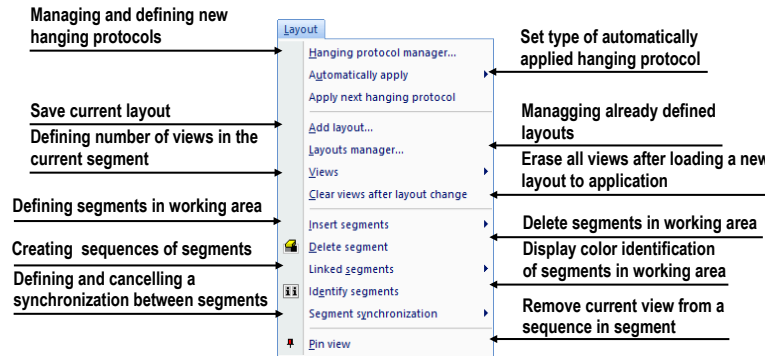

Figure 45 – Layout menu
- **Layout** – the functions for managing layouts and hanging protocols in TomoCon, such as creating a layout or hanging protocol, defining sequences or synchronizations, etc. (see Figure 45).